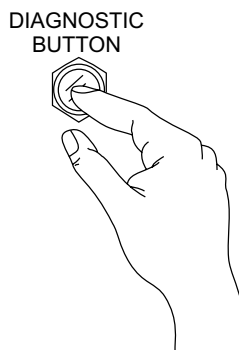

Figure 49. Diagnostic Button
5. Push and hold the diagnostic button (Figure 49) to identify the fault.